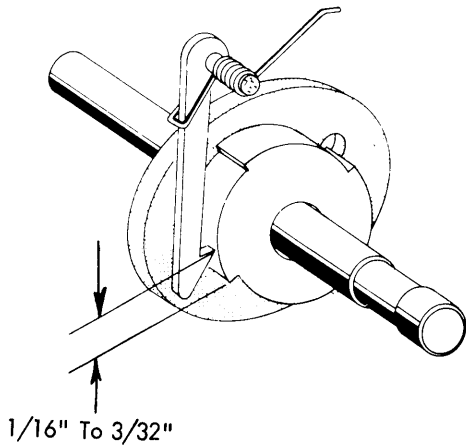

FIGURE 30. Radial Position of Cycle Clutch Collar
- c. Radial position of the collar - (The position of the collar directly controls the radial position of the left hand end of the cycle clutch spring with respect to the cycle shaft. It determines how much the spring clutch will be expanded when the cycle clutch sleeve is latched and the cycle shaft is in its rest position.) Adjust the collar so that when a zero tilt, negative-five rotate character is hand cycled the cycle clutch spring will begin to slip (expand) when the cycle shaft is 1/16" to 3/32" from its rest position measured on the surface of check ratchet (Fig. 30).